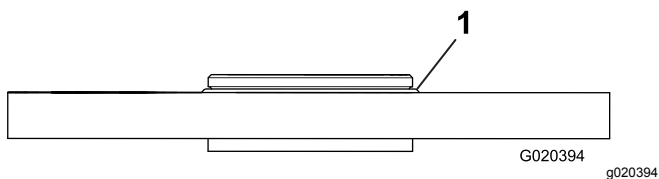

Figure 8
14. Ensure that the O-ring is installed on the roller brush housing (**Figure 7** and **Figure 8**).